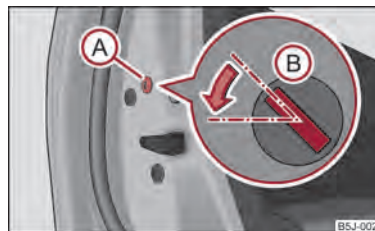

Fig. 14 Emergency locking of the door
- Remove the panel (A) ⇒ fig. 14.
- Insert the key into the slot (B) and turn it into the horizontal position in the direction of the arrow (mirror-inverted on the right doors).